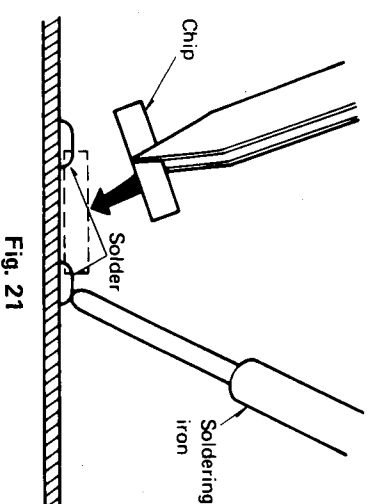

Fig. 21
2. Remove chip with tweezers by rotating it while removing solder as shown in Fig. 21.